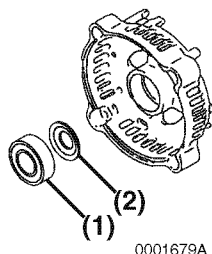

Figure 11-27
1. If removed, install the thrust washer (**Figure 11-27, (2)**) in the rear frame housing. Lubricate the outside diameter of a new bearing (**Figure 11-27, (1)**). Press the bearing into the rear frame housing.